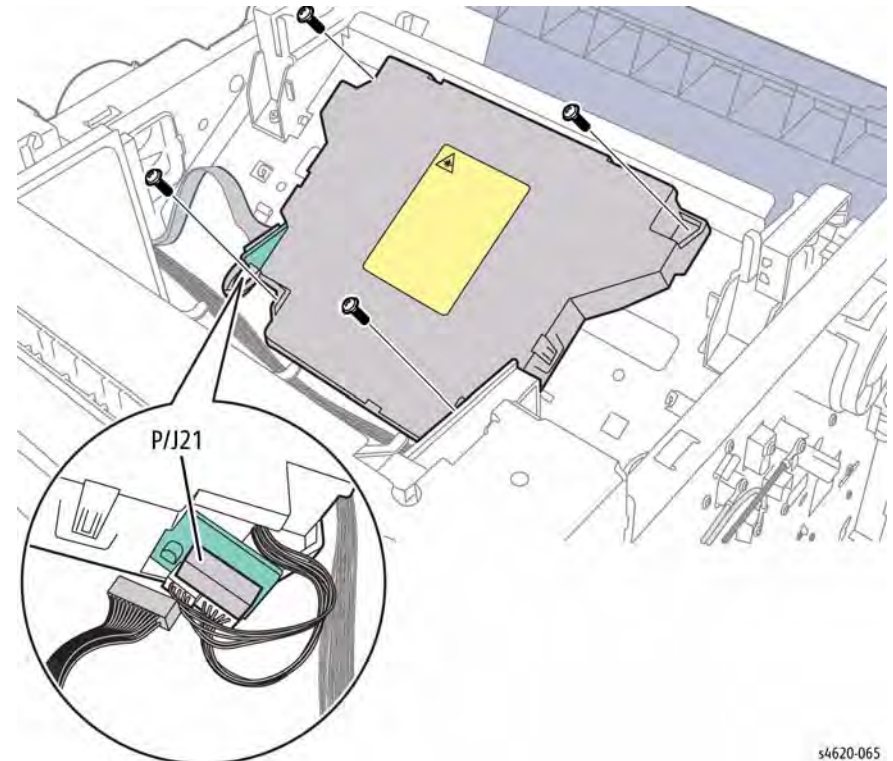

Figure 1 Remove the Laser Unit
8. Remove 4 screws (metal) that secure the Laser Unit to the chassis, Figure 1.